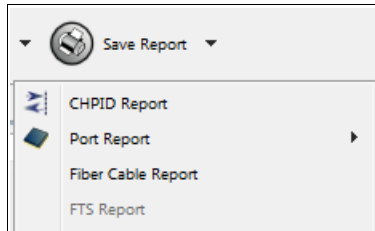

Figure 4-35 Availability ran successfully with no errors message
6. After the CHPID Mapping Tool resets the CHPIDs, it displays the result of the process (see Figure 4-35). Click **OK**.